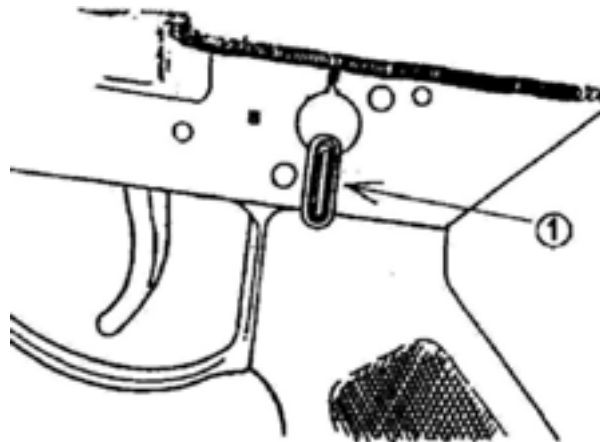

Figure 2-14. Rifle Safety on Fire
6. The rifle may now be fired (safety off—lever vertical (1), Figure 2-14). The rifle will fire one round for each squeeze of the trigger, until the magazine and chamber are empty.